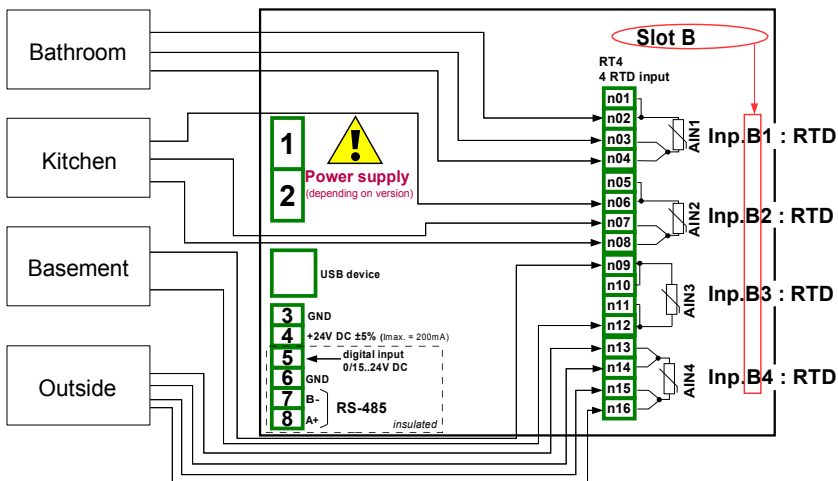

Fig. 7.56. Schematic diagram for the RT4 module
- choose as the source - **Inp. B1: RTD** (see the connection in Fig. 7.56), press the **Source configuration** button to set the source configuration options,